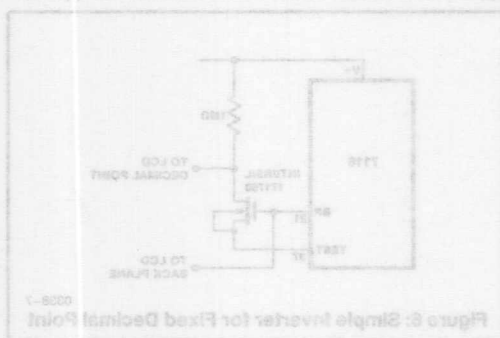

Figure 8: Simple Inverter for Fixed Decimal Point
Figures 8 and 9 show the digital section for the 7116 and 7117, respectively. In the 7116, an internal digital ground is generated from a 6 volt Zener diode and a large P channel source follower. This supply is made stiff to absorb the relative large capacitive currents when the back plane (BP) voltage is switched. The BP frequency is the clock frequency divided by 800. For three readings/second this is a 60Hz square wave with a nominal amplitude of 5 volts. The segments are driven at the same frequency and amplitude and are in phase with BP when OFF, but out of phase when ON. In all cases negligible DC voltage exists across the segments.